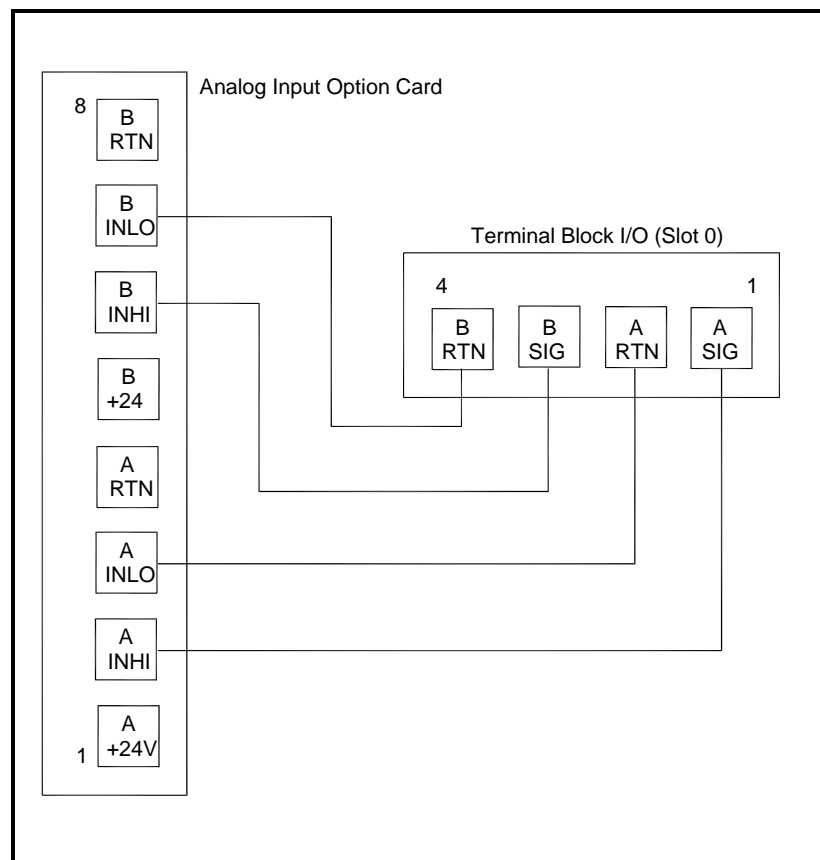
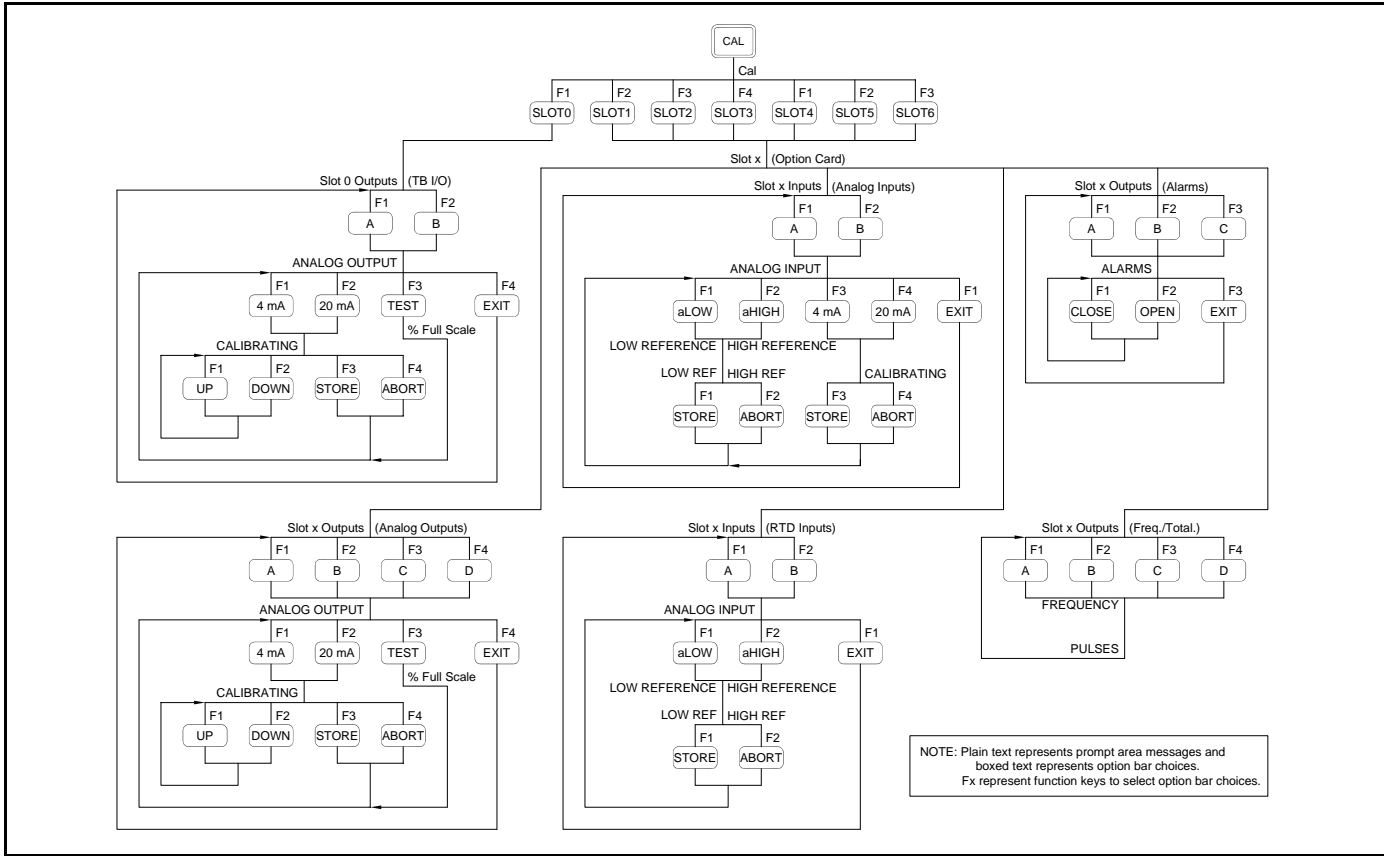

Figure 1-3: Analog Input Calibration Connections
Figure 1-6: Calibration Menu Map
Connect the Slot X analog output(s) (or an independent calibrated current source) to the analog input(s) on the option card, as shown in Figure 1-3 below. Refer to the menu map in Figure 1-6 on page 1-15 as a guide.
The procedure for calibrating Input A is identical to that for calibrating Input B. However, when calibrating Input B, be sure a calibrated current source is connected to the appropriate pins on the terminal block. See Figure 1-3 on page 1-6 for the correct pin numbers.
1. Connect the 4 mA current source to the currently selected analog input, as shown in Figure 1-3 on page 1-6.
1. Connect the 20 mA current source to the currently selected analog input, as shown in Figure 1-3 on page 1-6.
Alarm relays may be added to the Model DF868 by installing an *Alarms Option Card* in one (or more) of the six expansion slots. Each option card includes three alarm relays, which are designated as A, B, and C. To test the alarm relays, connect an ohmmeter to the option card terminal block as shown in Figure 1-4 below. Refer to the menu map in Figure 1-6 on page 1-15 as a guide.
Totalizer/Frequency outputs may be added to the Model DF868 by installing a *Totalizer/Frequency Option Card* in one (or more) of the six expansion slots. Each option card includes four outputs, which are designated as A, B, C and D. To test the outputs, connect a frequency counter to the card's terminal block as shown in Figure 1-5 below. Refer to the menu map in Figure 1-6 on page 1-15 as a guide.